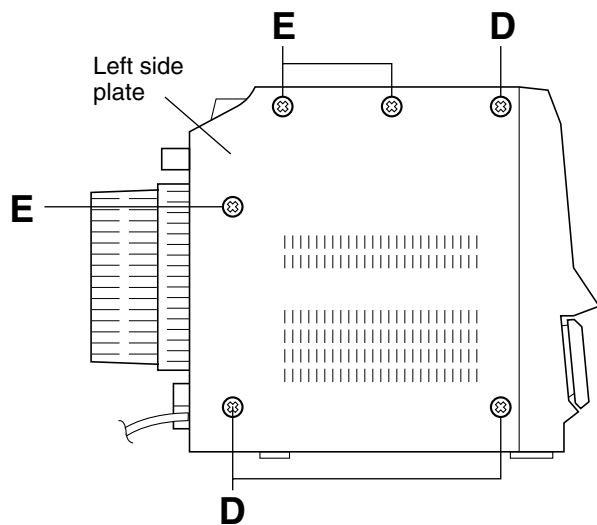

Fig.6
- Remove the left side plate according to its disassembly method (see **Figs. 6 and 7**).
(See Figs. 6 and 7.)
1. From the left side of the main body, remove the three screws **D** and three screws **E** retaining the left side plate. (See Fig.6.)